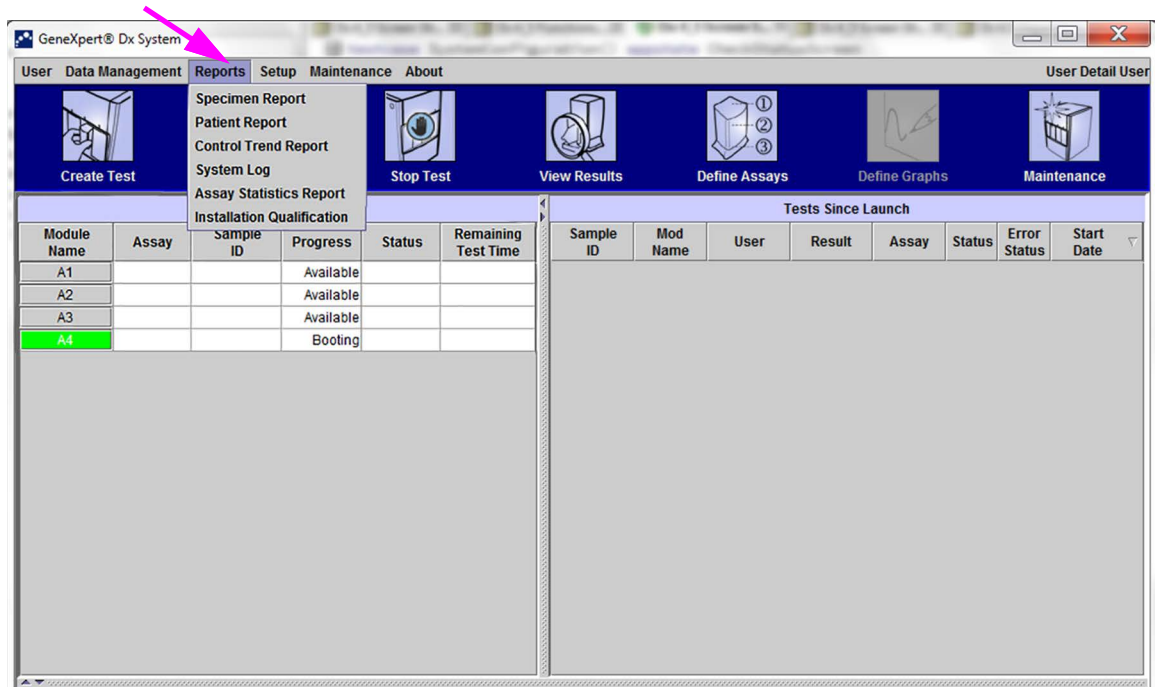
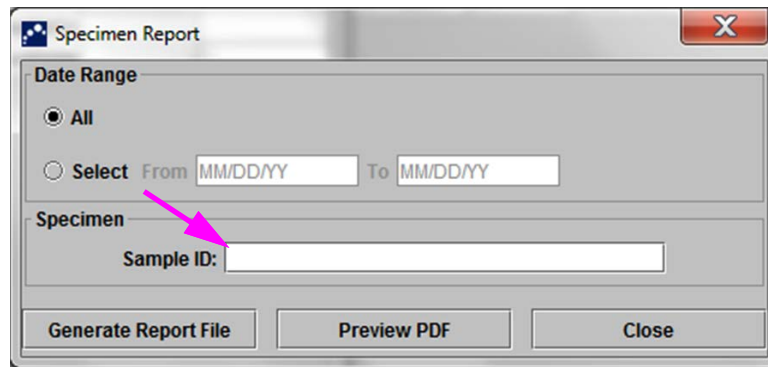
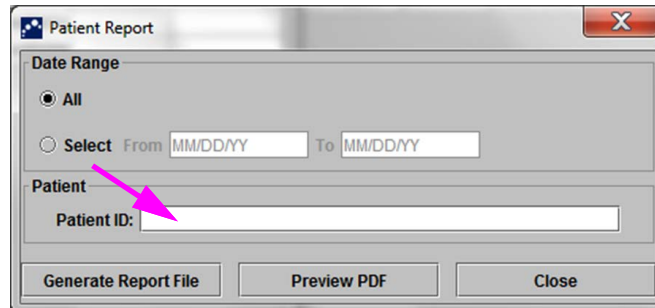
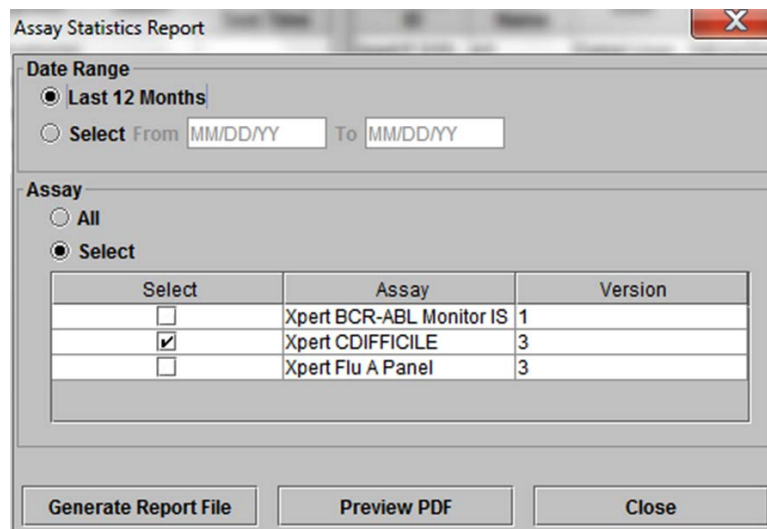

Figure 5-80. GeneXpert Dx System Window—Reports Drop-Down Menu
Figure 5-81. Specimen Report Dialog Box
Figure 5-83. Patient Report Dialog Box
Figure 5-85. Assay Statistics Report Dialog Box
The **Reports** menu (see Figure 5-80) provides the following menu options:
1. In the GeneXpert Dx System window, on the **Reports** menu (see Figure 5-80), click **Specimen Report**. The Specimen Report dialog box appears. See Figure 5-81.
- 1) Click the **Generate Report File** button on the Specimen Report screen (see Figure 5-81) to create the PDF file of the report. The Generate Report File dialog box will appear, which enables you to save the file to a specified location. Click **Save** once you have navigated to the specific location.
1. In the GeneXpert Dx System window, on the **Reports** menu (see Figure 5-80), click **Patient Report**. The Patient Report dialog box appears. See Figure 5-83.
- 1) Click the **GENERATE REPORT FILE** button on Patient Report screen (see Figure 5-83) to create the PDF file of the report. The Generate Report File dialog box will appear, which enables you to save the file to a specified location. Click **Save** once you have navigated to the specific location.
1. In the GeneXpert Dx System window, on the **Reports** menu (see Figure 5-80), click **Assay Statistics Report**. The Assay Statistics Report dialog box appears. See Figure 5-85.
- 1) Click the **Generate Report File** button on the Assay Statistics Report screen (see Figure 5-85) to create the PDF file of the report. The Generate Report File dialog box will appear, which enables you to save the file to a specified location. Click **Save** once you have navigated to the specific location.